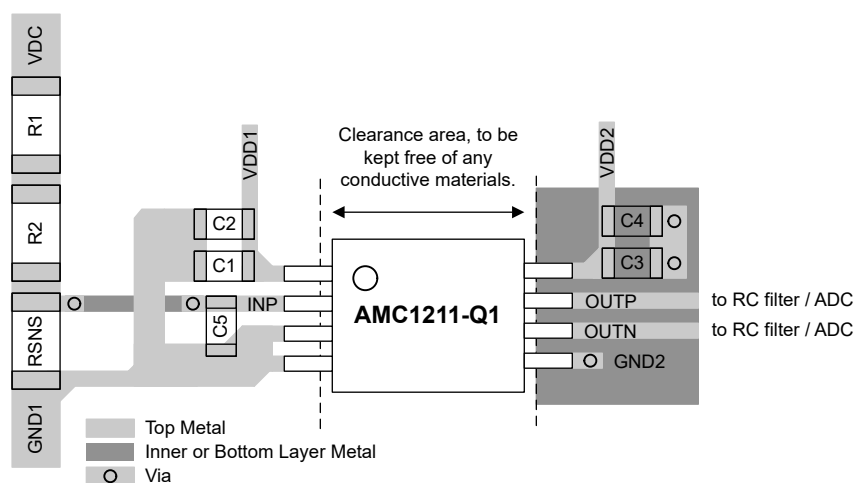

FIG 8-6. Recommended Layout of the AMC1211-Q1
FIG 8-6 shows a layout recommendation with the critical placement of the decoupling capacitors (as close as possible to the AMC1211-Q1 supply pins) and placement of the other components required by the device. For best performance, place the sense resistor close to the device input pin (IN).